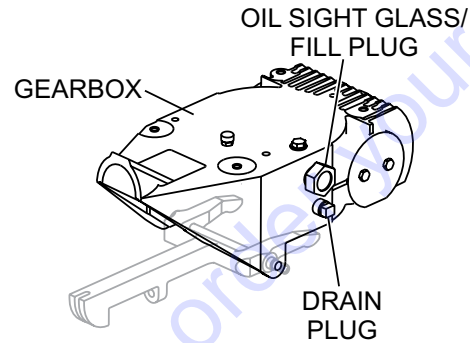

Figure 24. Gearbox
- Determine if the gearbox oil is low by removing the oil plug located on the side of the gearbox. (Figure 24) This plug will be marked by the "check" decal. The correct level of the lubrication oil should be to the bottom of the fill plug.